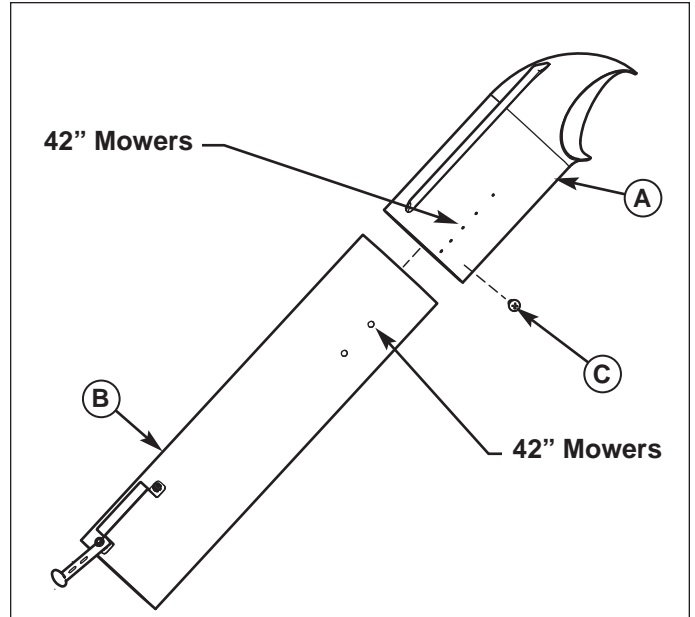

Figure 6. Middle and Upper Tube Assembly
1. Slide the upper tube (A, Figure 6) over middle tube (B) and secure together using screw (C).
See Figure 6 for hole locations.